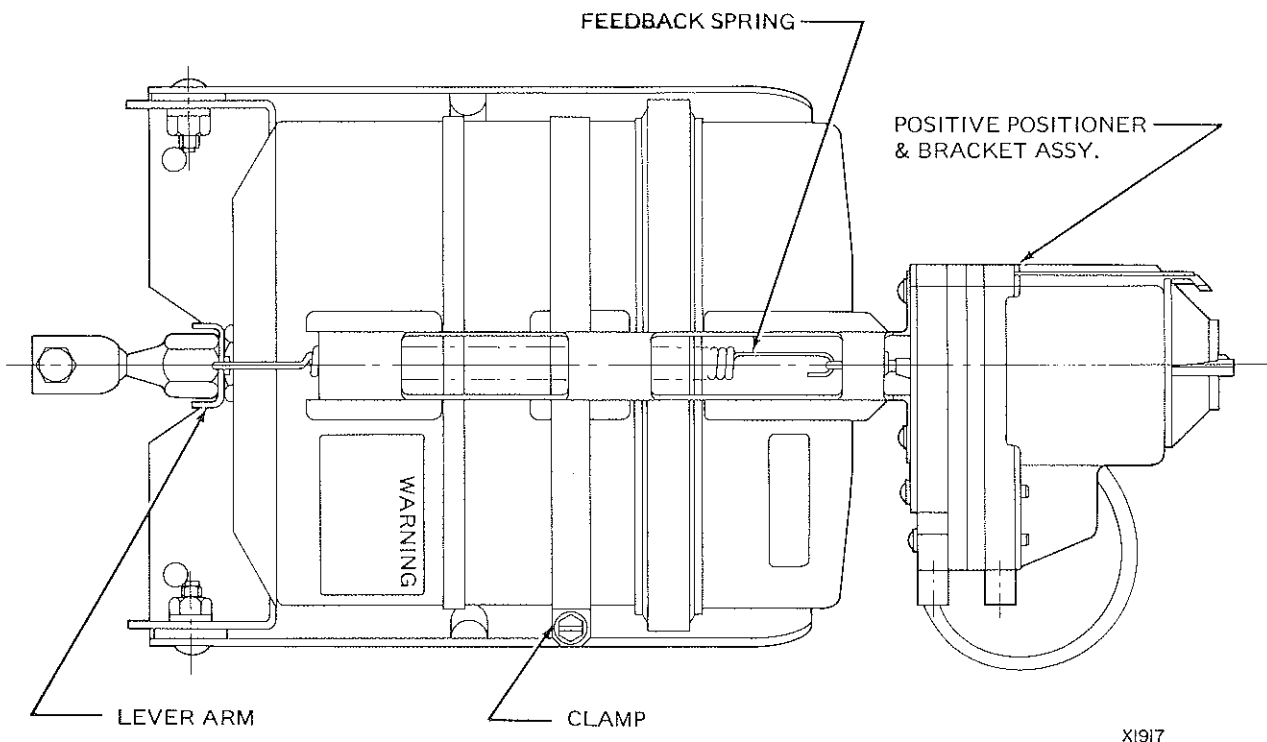

Fig. 9. MP904 Showing Mounting of Positive Positioner.
5. Secure positioner in place with clamp as shown in Figure 9. Feedback spring housing will orient correctly on operator by notches.
8. Select feedback spring from kit and hook spring to lever arm and positioner as shown in Figure 9.